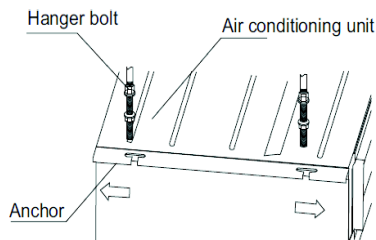

Fig. 8 – Install the Hanger Bolts
1. **INSTALLING HANGER BOLTS** – Install the hanger bolts at the locations (see Fig. 8, top view). Use a $\varnothing 0.39$ in. / (10mm) all-threaded rod.